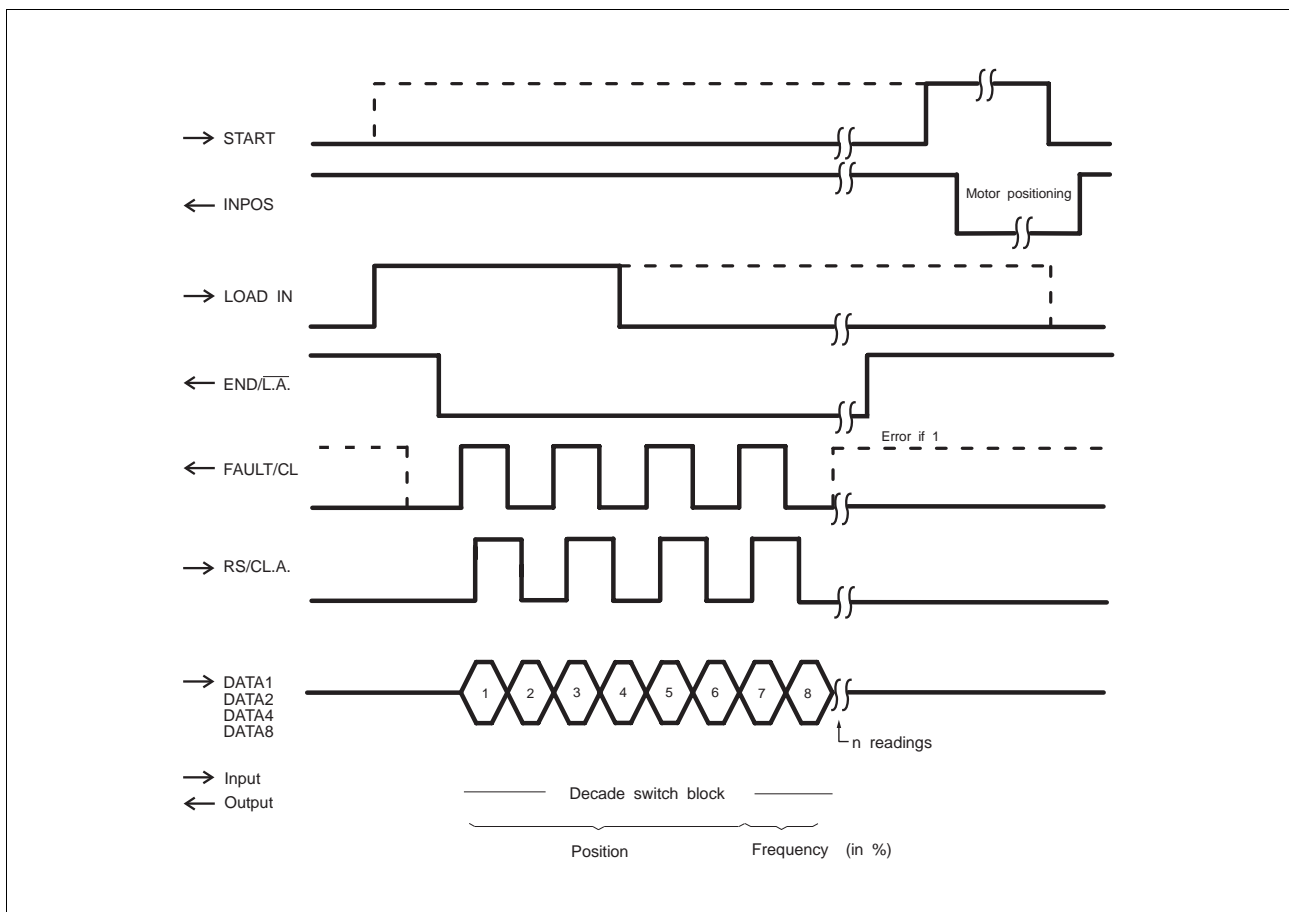

Fig. 6-7 Timing diagram for parallel data transfer
4. Switch on supply voltage, set decade value on the decade switch block and read in according to the timing diagram (fig. 6-7).